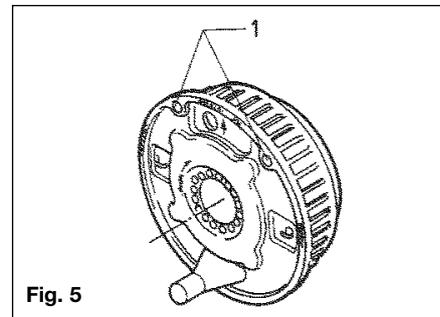

Fig. 5
**NOTE:** The hub bearing is not protected against water ingress. Check wheel brake linings for wear every 10,000 kilometers or every 12 months via the inspection hole (Fig. 5/Item 1). Adjust if necessary. Where continuous travel in hilly regions or high mileage is experienced, earlier inspection and adjustment may be necessary.
Check the wear of the wheel brake linings every 10,000 Km or every 12 months through inspection hole (Fig. 5) and adjust if necessary. Where continuous travel in hilly regions or high mileage is experienced, earlier inspection and adjustment may be necessary.